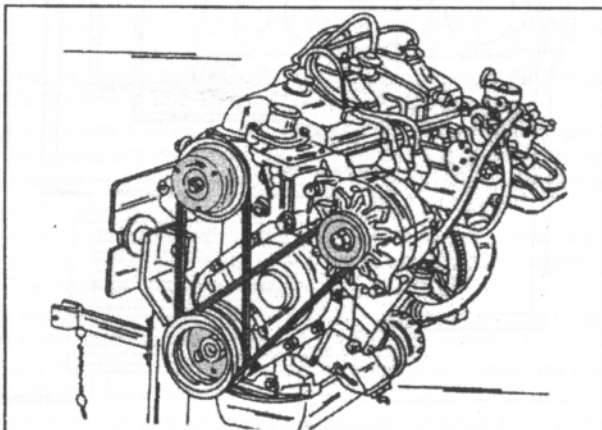

Fig. 1.82. — The water pump drive belt is fitted vertically between the crankshaft pulley and the water pump. The other belt drives the alternator.
The water pump is driven by a separate drive belt from the crankshaft pulley. The belt has no tensioning device, i.e. it must be "forced" off the pulleys and fitted in a similar manner. The layout of the belt is shown in Fig. 1.82.
- Place the water pump drive belt **behind** the crankshaft pulley and engage it with the water pump pulley. Now fit the belt at the bottom over the crankshaft pulley in a similar manner as shown in Fig. 1.82, again rotating the crankshaft pulley nut with a 35 mm socket and a ratchet until the belt jumps into the groove.
The layout of the alternator belt can be seen in Fig. 1.82. The adjusting point for the belt is located on the alternator. The workshop will use a special gauge to tension the belt, which is placed against the belt. Without this tension checking gauge proceed as follows: